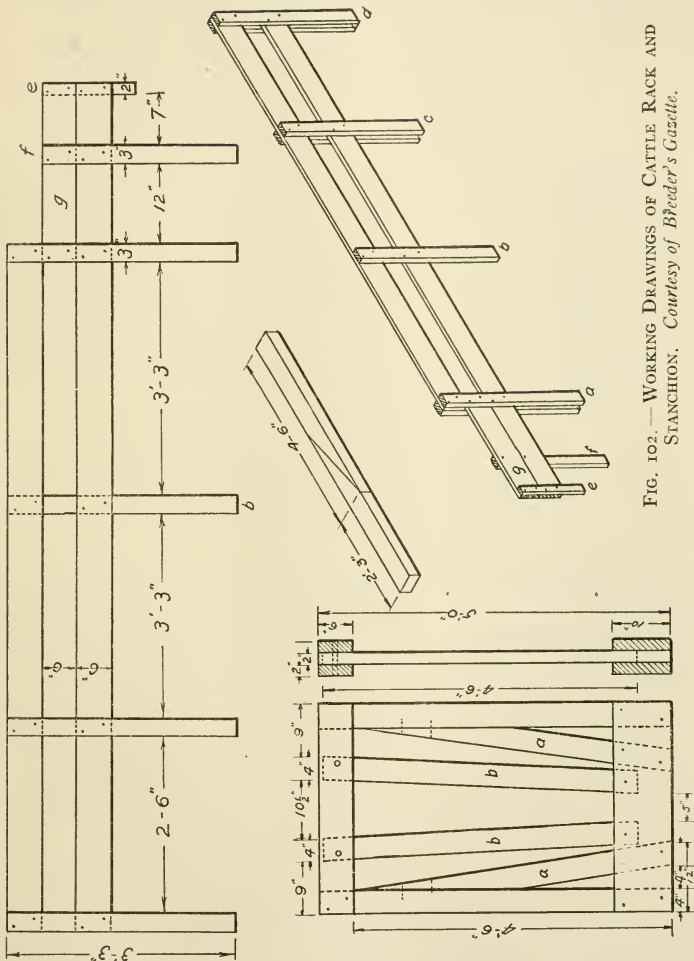

FIG. 102.—WORKING DRAWINGS OF CATTLE RACK AND STANCHION. Courtesy of *Bleeder's Gazette*.
3. **Nailing strips to boards.** — Locate the strips on the boards at the distances shown in the working drawing, Fig. 102. Stagger the nails so as to not split the hardwood strips. Drive the nails clear through and clinch on the inside. At *e* one short strip is nailed on the outside of each side. At *f* one strip is nailed on the inside of each side. At *b* one strip is nailed on the outside of each rack. The short strip *e* rests on the top edge of wagon box to hold front end gate of box.
4. **Laying out and sawing timbers for stanchion.**—A stanchion is an arrangement of bars for fastening cattle in a stall by locking timbers around their necks so they cannot get away, and yet giving them considerable freedom of motion. In sawing the braces *a, a*, you can save considerable lumber by laying them out in one piece instead of using two pieces each 4' 6" long. In this way you save the difference between 6' 9" and 9'. The rest of the timbers are laid out as indicated. (See Fig. 102.)